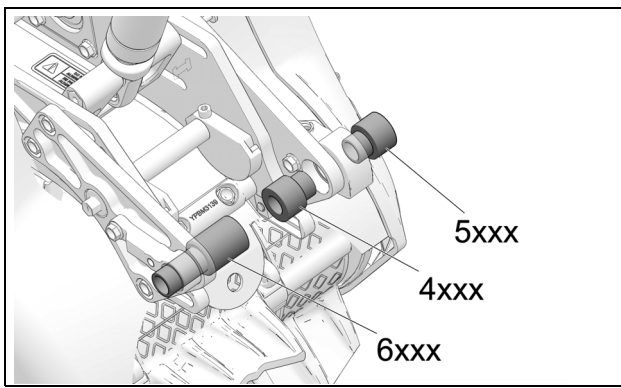

Figure 20
- Insert T-bushings in the System's chassis mounting points, making sure that they are installed the right position and direction. See Figure 20.